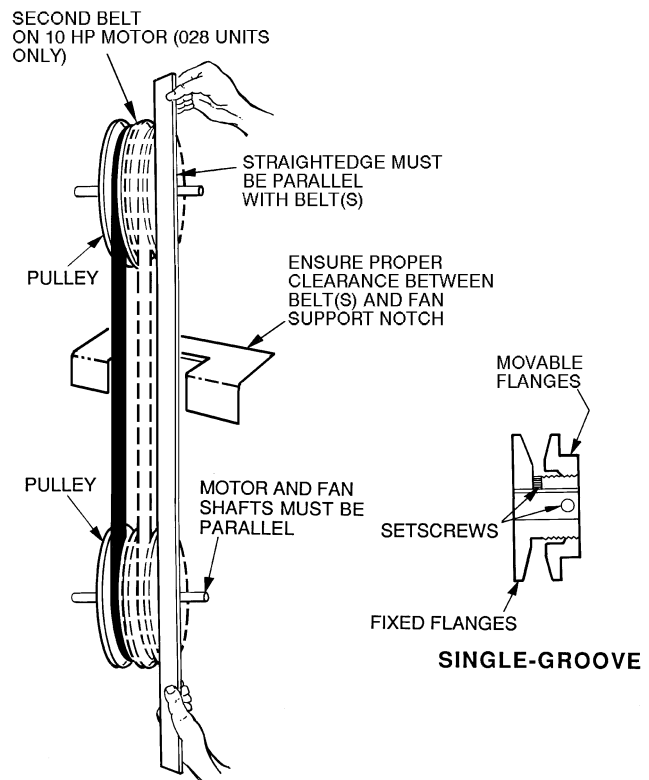

Fig. 32 — Evaporator-Fan Pulley Alignment and Adjustment
3. Loosen movable-pulley flange setscrew (see Fig. 32).